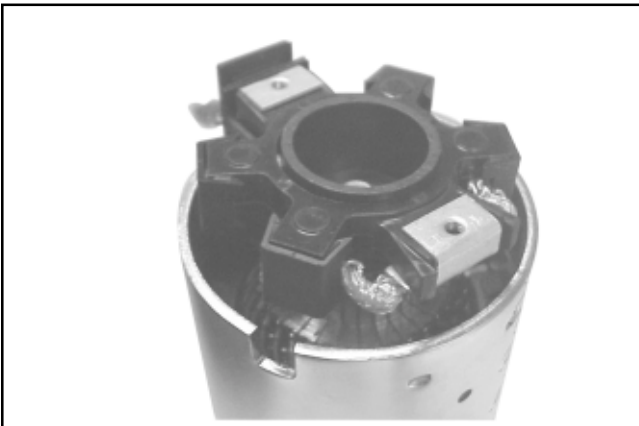

Figure 8-63. Installing Brush Holder Assembly with Supplied Tube.
- a. Hold the starter assembly vertically on the end housing, and carefully position the assembled brush holder assembly, with the supplied protective tube, against the end of the commutator/armature. The mounting screw holes in the metal clips must be “up/out.” Slide the brush holder assembly down into place around the commutator, and install the positive (+) brush lead grommet in the cutout of the frame. See Figure 8-63. The protective tube may be saved and used for future servicing.